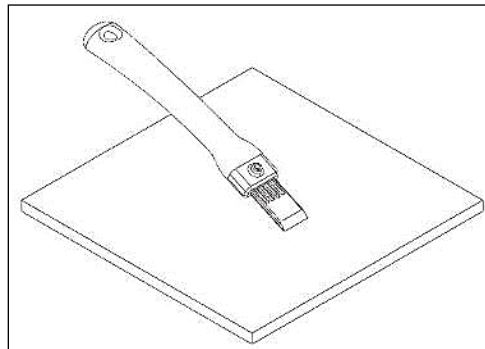

Figure 6. TSB Placement on Structure
3.2.1. Place the TSB on the surface of the structure from which the material is being removed. See **Figure 6**.